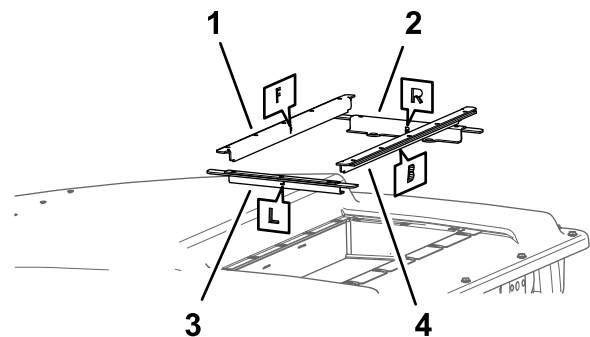

**Figure 45**
1. Align the holes in the flange of the roof with the holes in the flange of the headliner (Figure 45).
2. Assemble the flange of the roof to the flange of the headliner (Figure 45) with the 22 shoulder bolts, 22 washers (5/16 x 5/8 inch), 22 flange locknut (1/4 inch) that you removed in step 3 of Removing the Cab Roof (page 11).